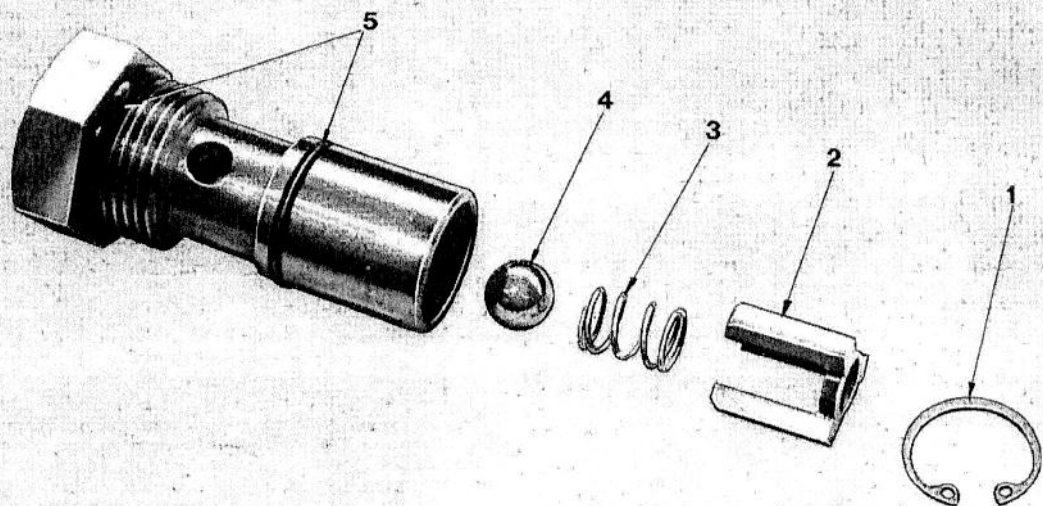

FIG. 20
1. (Fig. 20) Unscrew the valve from the end cover using a 1.3/8in. A/F spanner.
2. Remove the circlip (1) and withdraw the spring cage, (2) spring (3) and steel ball. (4).
1. (Fig. 20) Lubricate two new O-rings (5) with thin mineral-base grease and place in the external grooves in the body.
2. Place the ball (4) on the seat and fit the spring (3) and spring cage (2) over it. Retain by fitting the circlip. (1).